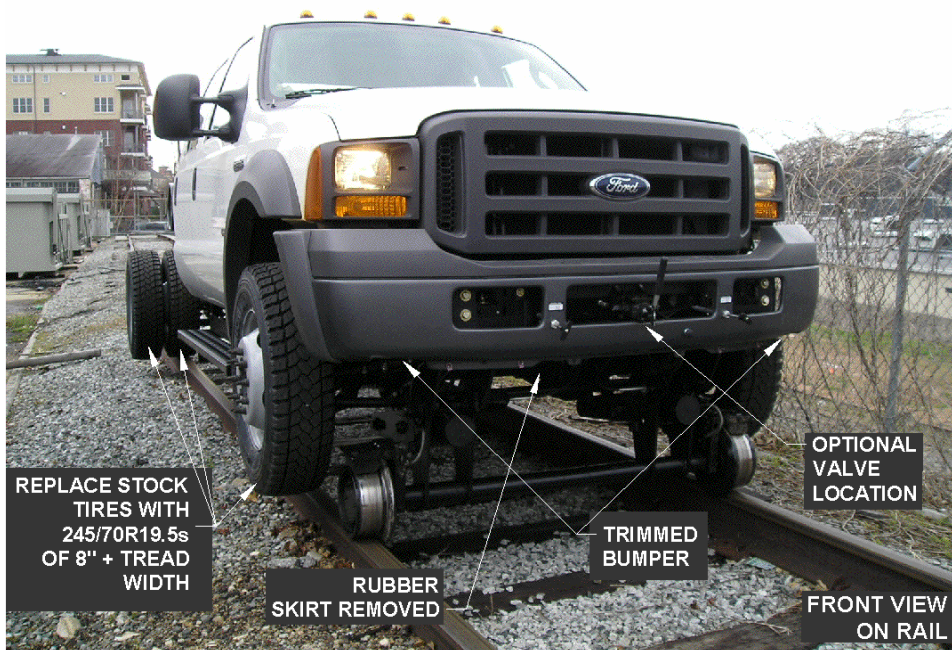

Figure 1: RW-1019 for '05 F4/550 Front View
- Trim Bumper to clear railwheel in stowed position (see fig 1)
- Front Valves can be located as shown in fig 1 or as required.